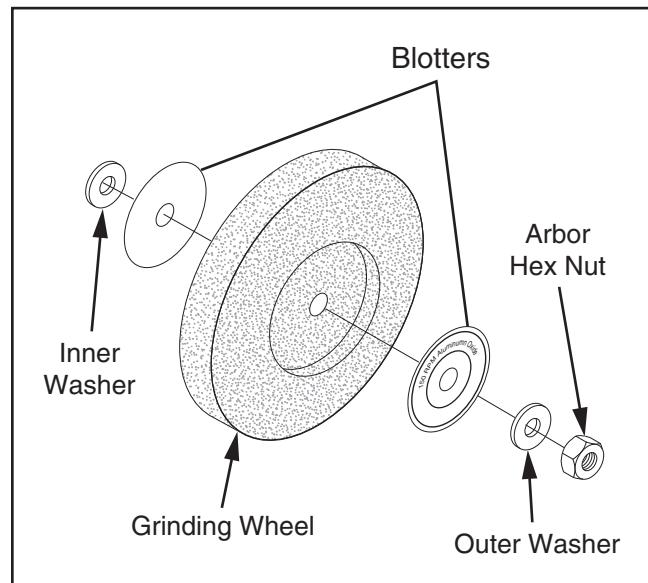

Figure 10. Assembly order for wheel installation.
8. Mount grinding wheel components in order shown in **Figure 10**. Tighten arbor hex nut snugly but do not over-tighten. Over-tightening can stress and crack wheel.